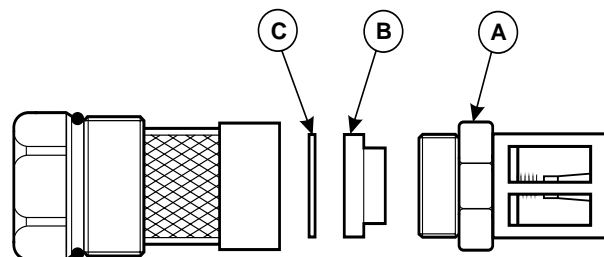

Fig. 5 - Differential pressure sensor BEFORE modification
4. Modify the differential pressure sensor (see Figs. 5 and 6) as follows:-
- a. Unscrew fitting 'A' and discard the components A, B and C as shown in Fig. 5.